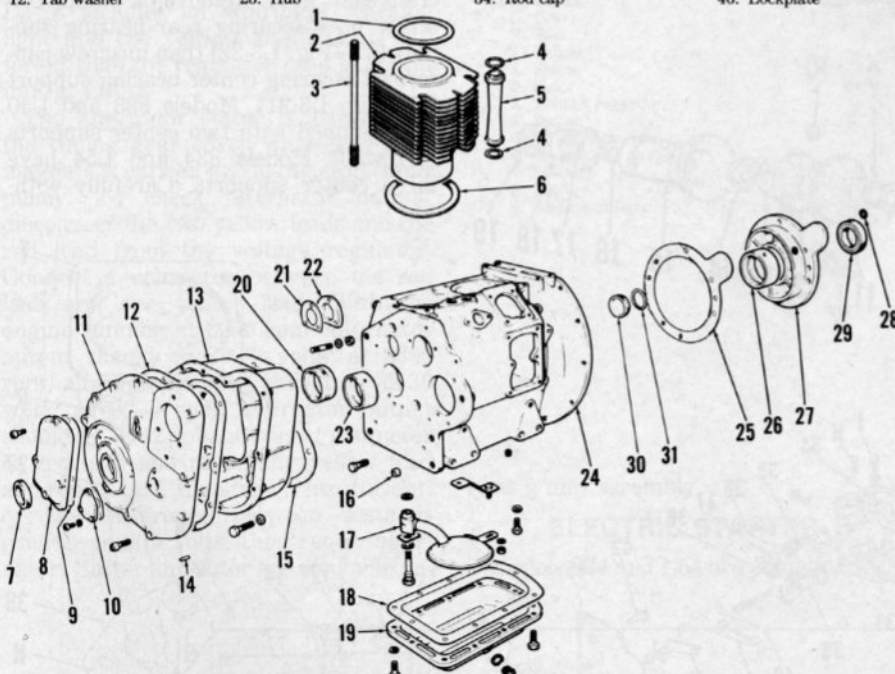

Fig. L3-22—Exploded view of typical crankcase assembly.
Piston height in cylinder is adjusted using shim gaskets (6—Fig. L3-22). With piston at top dead center, piston crown should be 0.0-0.1 mm below top of cylinder. Install shims (6) to obtain desired piston height.
R&R AND OVERHAUL. To remove crankshaft, remove pistons and timing gear cover as previously outlined. Remove idler gear, oil pump gear and crankshaft gear. Remove oil pump. Unscrew nuts securing rear bearing support (27—Fig. L3-22) then unscrew capscrews securing center bearing support (41—Fig. L3-21). Models 833 and L40 are equipped with two center supports (41) while Models 834 and L54 have three center supports. Carefully with-
Main bearing cap (43) has a serrated parting face. Install cap in support so reference numbers on cap and support are on same side. Tighten main bearing cap screws to 49 N·m. Tighten center main bearing support screws to 49 N·m and nuts securing rear main bearing support (27—Fig. L3-22) to 39.2 N·m.